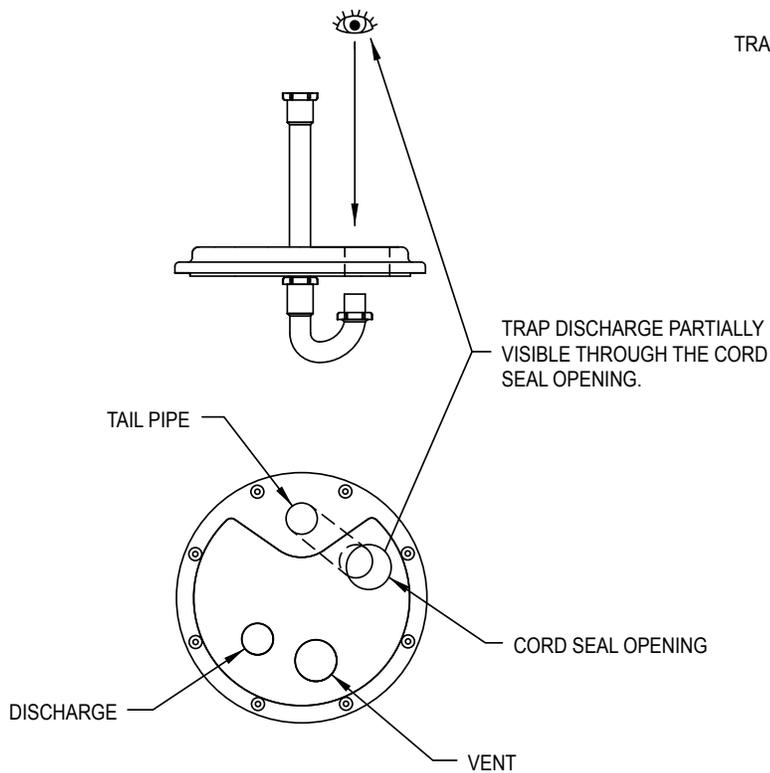

Figure 4.3
- 4.3) Orient the lid assembly as shown in Figure 4.3 and secure the trap components.